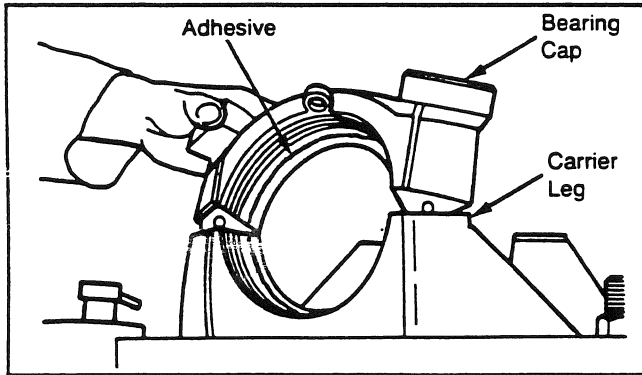

Fig. 62
2. Apply a continuous bead of adhesive ('Loctite' RC 635, or equivalent) to the bearing bores in the carrier and bearing caps. Apply the adhesive 360° around the smooth, ground surfaces only. Do not apply adhesive onto the threads (see Fig. 62).